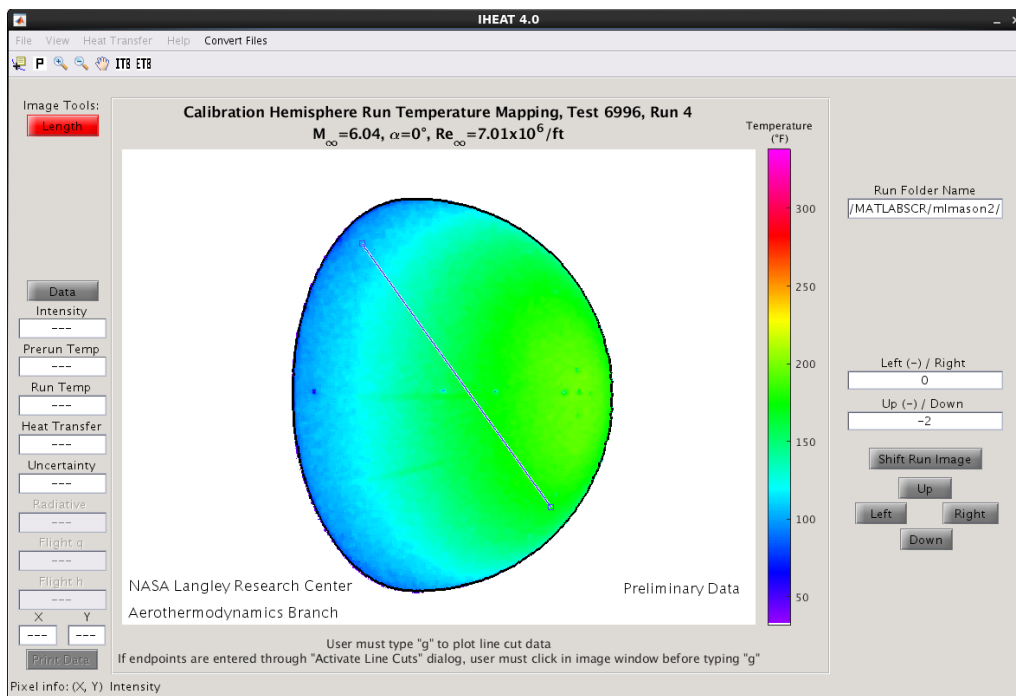
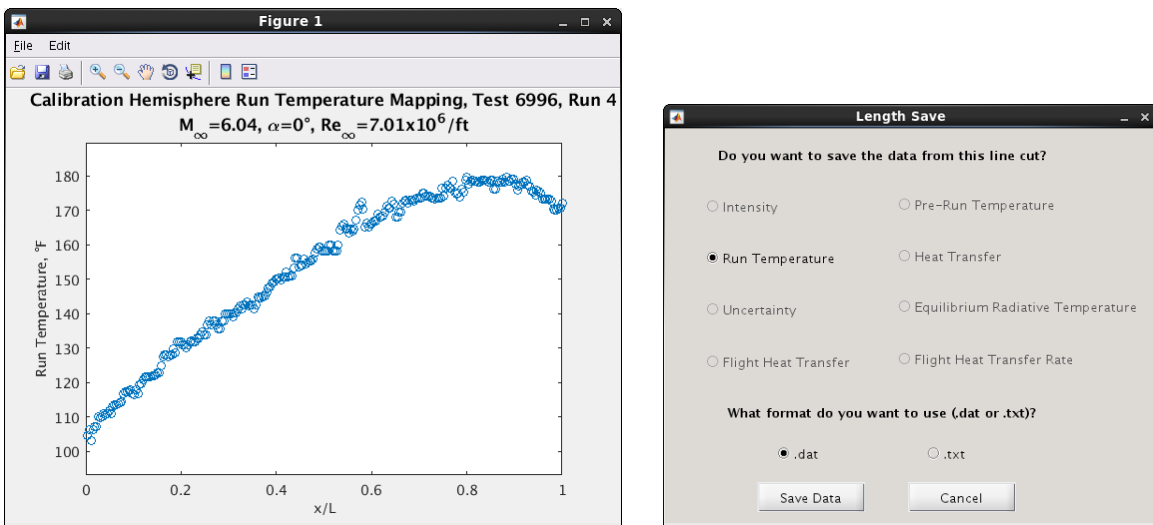

Figure 15: Image Tools, *Length* and *Profile*.
Figure 16: Image Tools, *Length*: Line Cut Data and Save Dialog.
1. *Length/Profile*: The same procedure is used to operate both the *Length* and the *Profile* tools, so only the *Length* tool is demonstrated in this tutorial. In figure 15, the *Length* tool is selected, and a blue line is drawn on the image. To draw the line, the user can either click and drag a line on the image (as was done in this case) or type the endpoints of the line into the *Activate Line Cuts Menu* text boxes prior to entering either the *Length* or the *Profile* tool. If the latter option is used, the user must click somewhere in the image after clicking on the button for the line cut tool and before pressing “g” to extract the line cut data. For more information on how to create a line using this method, refer to the *Activate Line Cuts Menu* description in the *File* menu section at the beginning of this tutorial.
A message below the image in the GUI in figure 15 tells the user to type “g” on the keyboard to plot the line cut data. Figure 16 shows the *Save* dialog and plotted line cut data that appear when “g” is pressed if the run temperature image is visible in the user interface. The *Save* window must be closed before the user can modify the line cut or exit the *Length* or *Profile* tool. The line cut data in the figure can be saved using the *File* menu. The *Edit* menu in the figure allows the user to add a text box to the figure or change the figure title, the axes limits and the axes labels. The other icons in the figure toolbar menu allow the user to view and analyze the line cut data. The *Save* dialog box gives the user the option to save ASCII line cut data in either a *.dat* file or a *.txt* file.